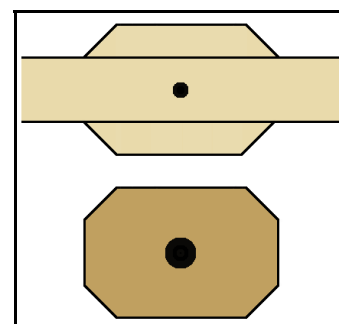

FIGURE 11
- ⇒ Lay the assembled top board on top of the piece of 3/4" plywood. Trace around the 2x2 wings. Remove the plywood and finish drawing lines to connect the open ends. Cut the plywood along the lines. *Figure 11* shows the center section of the top board, and the plywood "cleat" already cut out.